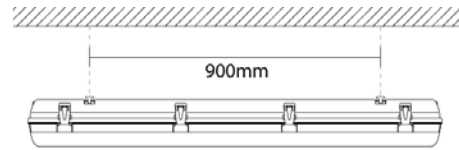

Fig 1
- Attach mounting to ceiling using 900mm Fixing center spacing (see Fig1)